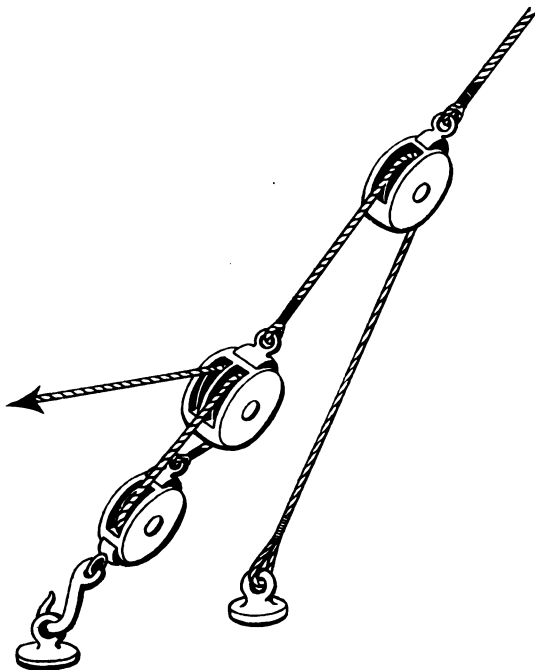

Fig. 185.—Runner and tackle
(11) *The Runner and Tackle* (Fig. 185) is a tackle with its moving block made fast to the hauling part of a runner. The mechanical advantage of the runner and tackle illustrated is $2 \times 3 = 6$.